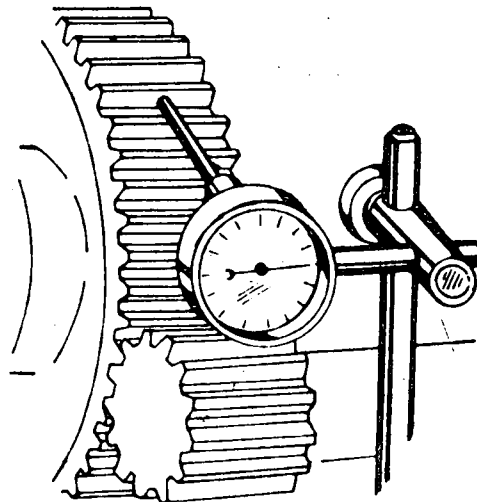

Fig. 3
- a) Install the dial gauge (Fig. 3).